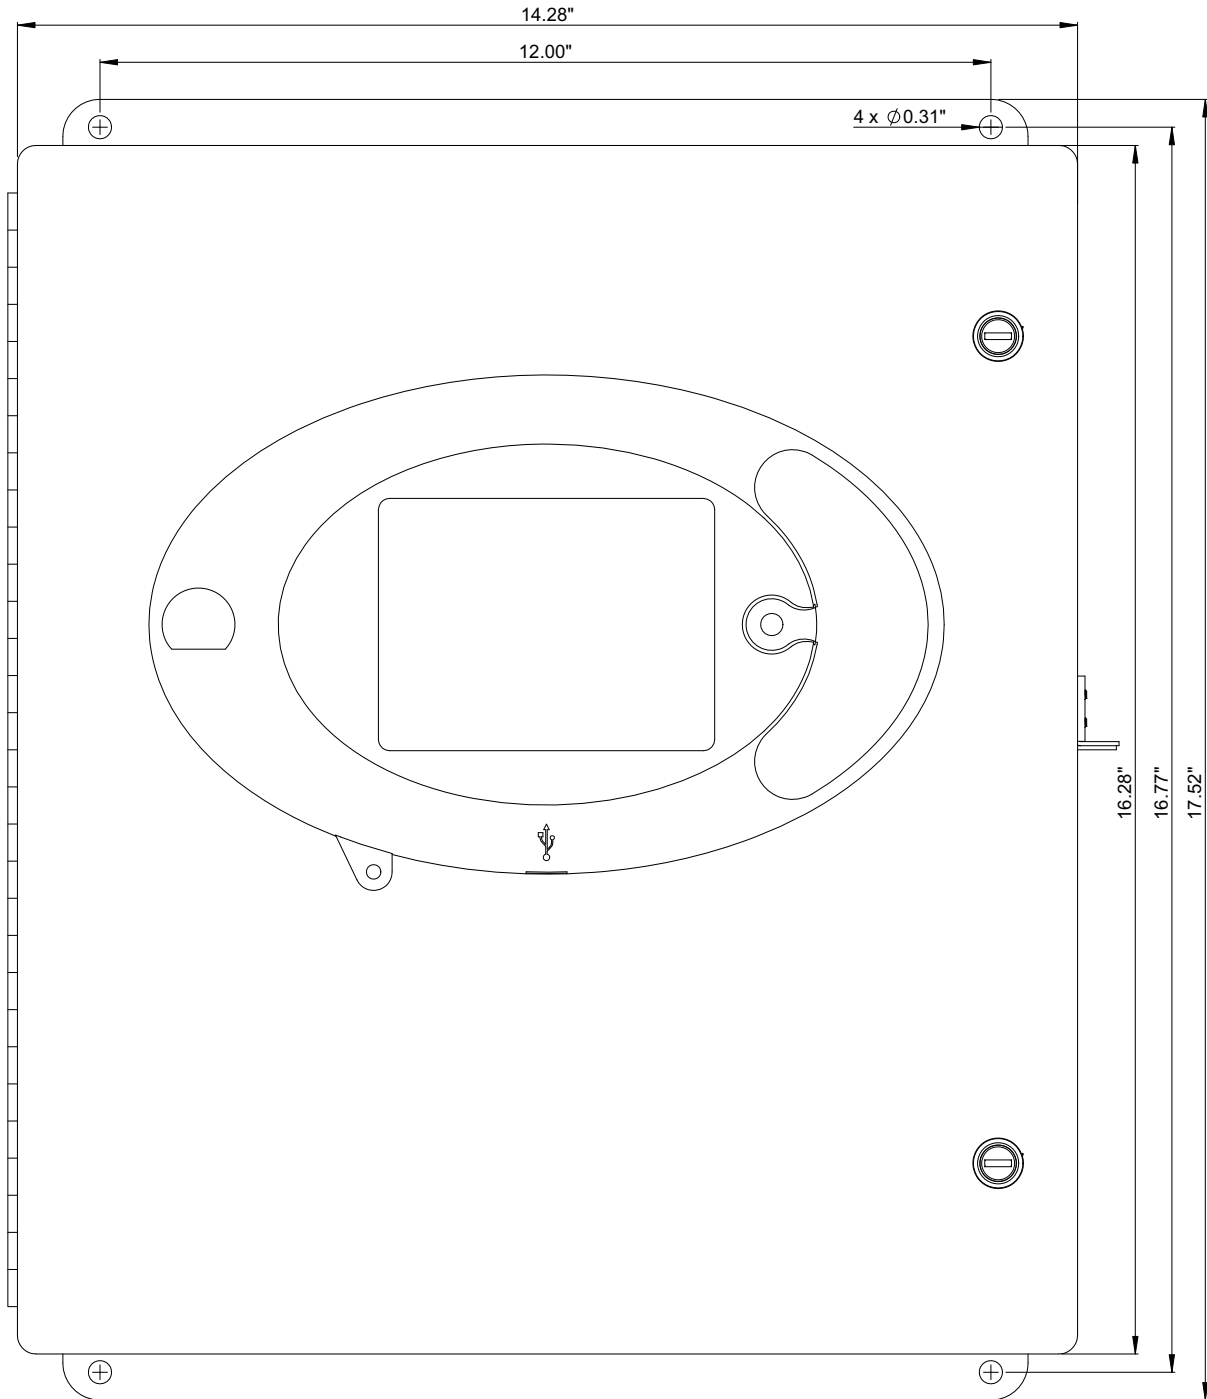

Figure 2.6: Enclosure Front Dimensions
1. Install the 4 required mounting bolt anchors at locations as shown in Figure 2.6 (4 X 00.31”).